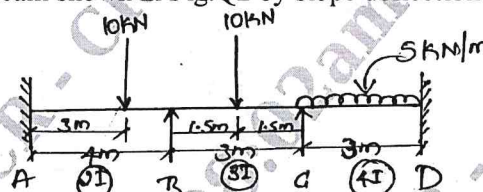

Fig.Q2
- 2 Analyze the continuous beam shown in Fig.Q2 by slope deflection method. Draw BMD. (20 Marks)